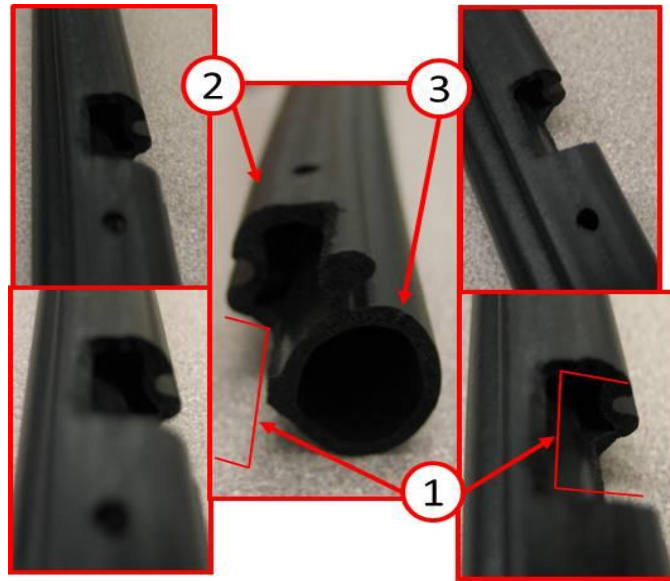

Fig. 3 Seal Modification Desired Result
NOTE: Be careful when notching the door seal so that the inside wall of the bulb seal (3) is not cut when the notch (1) is cut into the outer “wet side” (2) of the door seal. (Fig. 3) shows the desired result of the door seal notch procedure outlined in Step #3 with relation to the structure of the seal and the layout of the notch on the seal relative to the door.